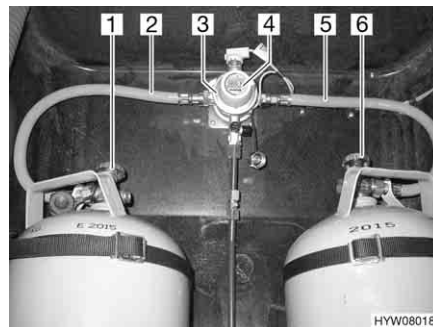
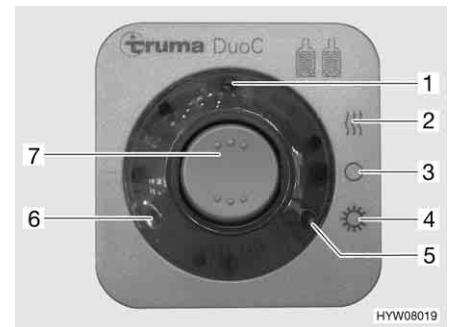

Fig. 130 DuoControl switching facility
Fig. 131 Operating unit
The DuoControl switching facility consists of a reversing valve (Fig. 130,3) and an operating unit (Fig. 131). The reversing valve is installed between the gas tubes (Fig. 130,2 and 5). The knob (Fig. 130,4) on the reversing valve is used to select which of the gas bottles is to be used as a primary bottle and which is to be used as a reserve bottle.
Only the electrical functions can be switched at the operating unit (Fig. 131). The regulator taps on the gas bottles (Fig. 130,1 and 6) must be opened manually.
The reversing valve provides a constant gas pressure, regardless of which gas bottle is being drawn upon. The two indicator lamps on the operating unit indicate the level of the primary bottle. When the green indicator lamp (Fig. 131,6) illuminates, the primary bottle is full. When the red indicator lamp (Fig. 131,5) illuminates, the primary bottle is empty. In this case, the reserve bottle is used for the gas supply.
- Open the regulator taps on the gas bottles (Fig. 130,1 and 6).
- Use the knob (Fig. 130,4) on the reversing valve (Fig. 130,3) to select the gas bottle which is to be the primary source of gas (primary bottle). Always turn the knob as far as it will go.
- Switch on the DuoControl switching facility at the operating unit (Fig. 131). To do so, set the rocker switch (Fig. 131,7) to winter operation "On and heating" (Fig. 131,2) or to summer operation "On" (Fig. 131,4). The reversing valve is now deaerated. The yellow indicator lamp (Fig. 131,1) illuminates if the winter operation has been selected and the regulator defroster is activated.
- Set the rocker switch (Fig. 131,7) to "O" (Fig. 131,3). The yellow indicator lamp (Fig. 131,1) goes out.
- Close the regulator taps on the gas bottles (Fig. 130,1 and 6).
The indicator lamps on the operating unit (Fig. 131,5 and 6) indicate in the vehicle interior whether the primary bottle is ready for operation.
If the green indicator lamp (Fig. 131,6) stops illuminating during operation and the red indicator lamp (Fig. 131,5) illuminates, the gas bottle selected as primary bottle is empty and needs to be changed. The reserve bottle continues supplying the gas appliances with gas.